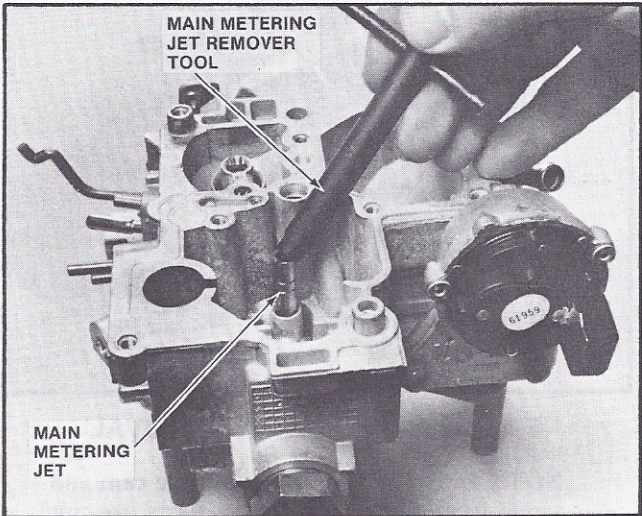

FIGURE 25 REMOVING MAIN METERING JET
8. Remove the main metering jet using Tool J-22769 or suitable screwdriver that fully fits the slot in top of the jet to prevent damage to the jet (Figure 25).